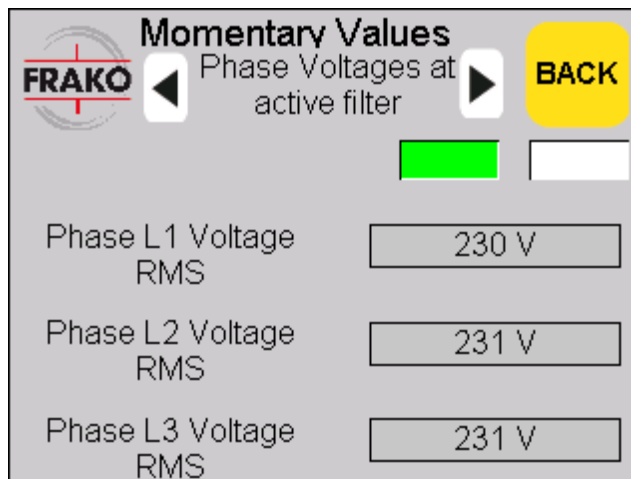

Figure 53. Momentary values -view.
- a. Select **Monitoring-> Momentary values** (see Figure 53). Especially check the following values: